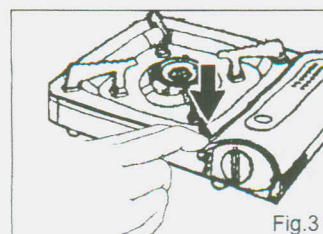

Fig.3
- Push down the Cartridge Fix Lever to SET position. (Fig. 3)